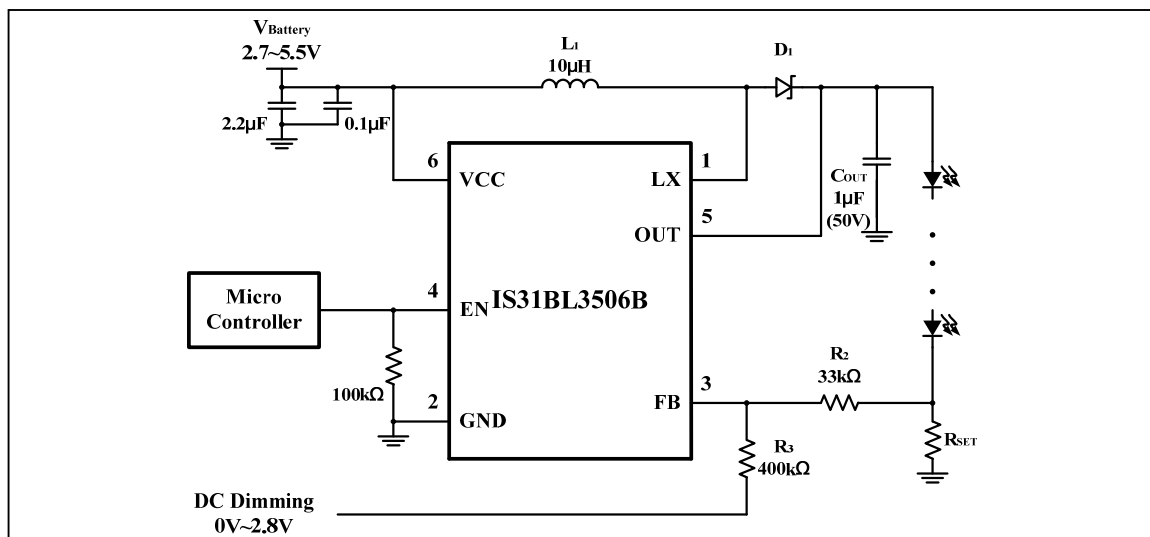

Figure 4 Constant output current with DC dimming input
The schematic of Figure 4 show an example of using a DC input voltage at the FB pin to implement LED dimming. When the DC input voltage increases, the current through R_2 and R_3 increases producing an offset voltage across R_2 , thereby causing the LED current to be reduced. The LED current may be computed using the following equation, (3). V_{FB} is 0.2V (typ.).